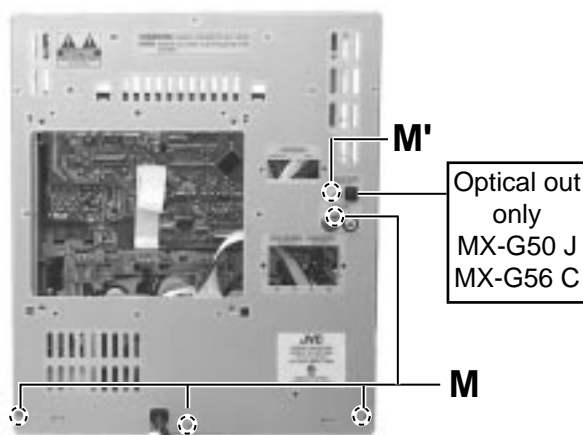

Fig.17
■ Removing the rear cover (See Fig.17)